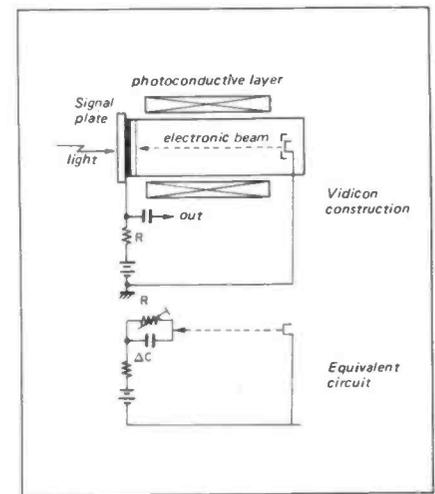

Figure 8: A simplified outline of a Tricon tube together with its equivalent circuit.
Figure 8 shows a simplified outline of a vidicon tube together with its equivalent circuit considering just one element of the photoconductive layer, which may be thought of as a resistance (whose value varies according to the amount of incident light falling upon it) in parallel with a small capacitance, as the scanning electron beam passes the 'beam' side of the plate assumes the cathode's potential (0V) while the 'signal plate' side is at target voltage (V). Any light incident on the tube's face will have the effect of discharging the capacitance as the value of the parallel resistance